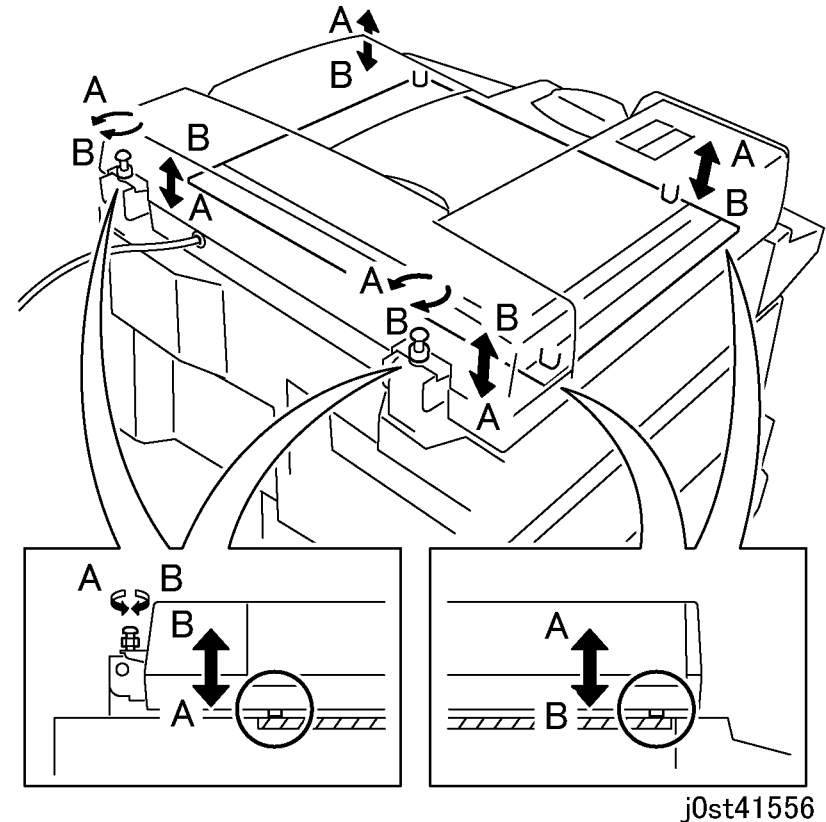

Figure 2 Adjusting the DADF Height (j0st41556)
1. Loosen the nut of the Left/Right Counter Balance and turn the screw to adjust the height and slant of the DADF. (Figure 2)